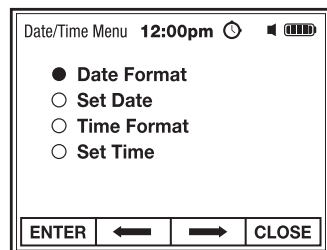

Fig. 25
2. Use the soft keys to select and ENTER desired Date or Time setting (Fig. 25).
1. From the Date/Time Menu, select and ENTER Date Format (Fig. 25).
1. From the Date/Time Menu, select and ENTER Set Date (Fig. 25).
1. From the Date/Time Menu, select and ENTER Time Format (Fig. 25).
1. From the Date/Time Menu, select and ENTER Set Time (Fig. 25).